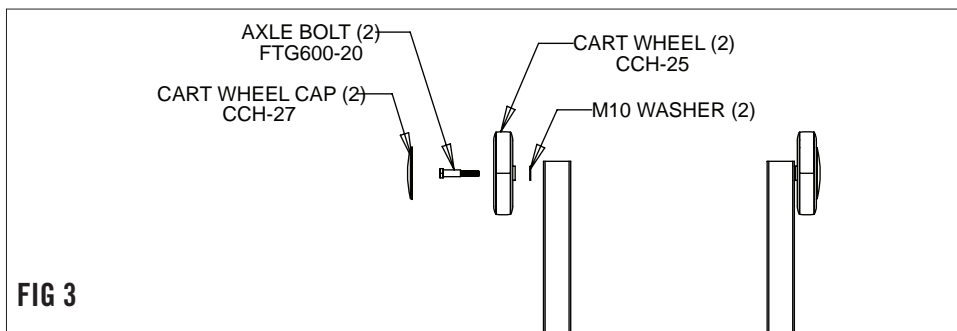

FIG 3
9. Install the wheels as shown in Figure 3. Tighten the axle bolt.
10. Install the wheel cap as shown in Figure 3.